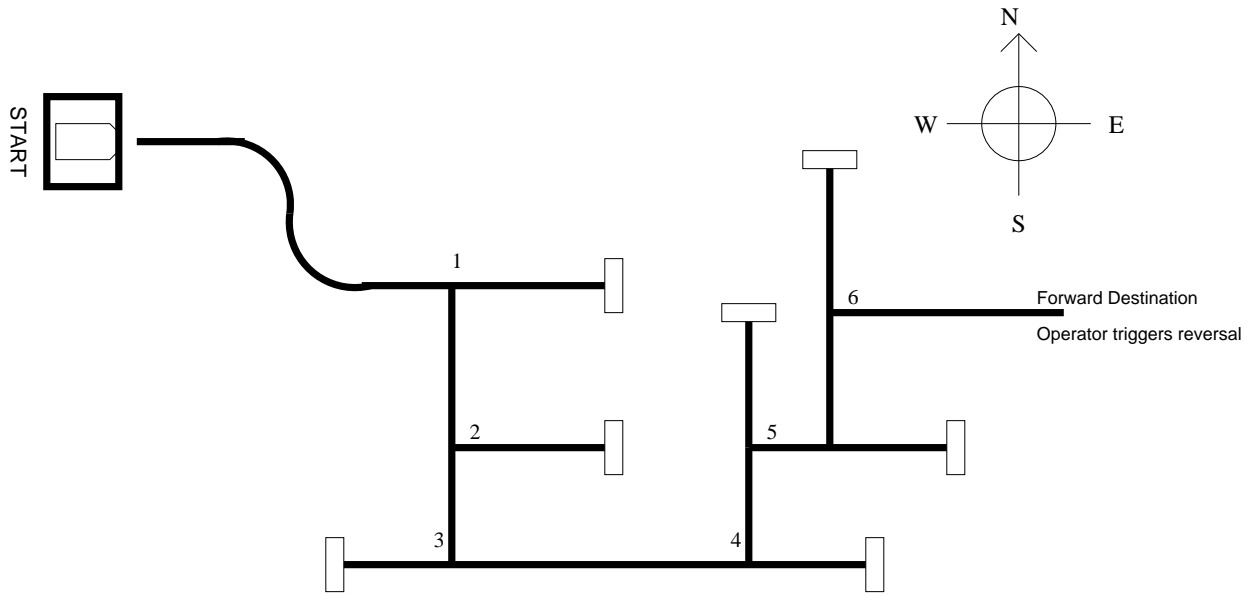

Figure 1: Robot Guidance Challenge
This year, the ELE538 Project is to program the *eebot* mobile robot with a navigation system that can find it's way through a maze, reverse, and back it's way out again. A possible maze is shown (not to scale) in figure 1.
- The exact layout is subject to change at the last minute, but will include features similar to those shown in figure 1.
For example, suppose the robot enters the maze shown in figure 1 and encounters intersection # 1. It detects the branching path to the South and understands that it has a choice of continuing East or turning South. Randomly, it choses to continue East (which is incorrect).